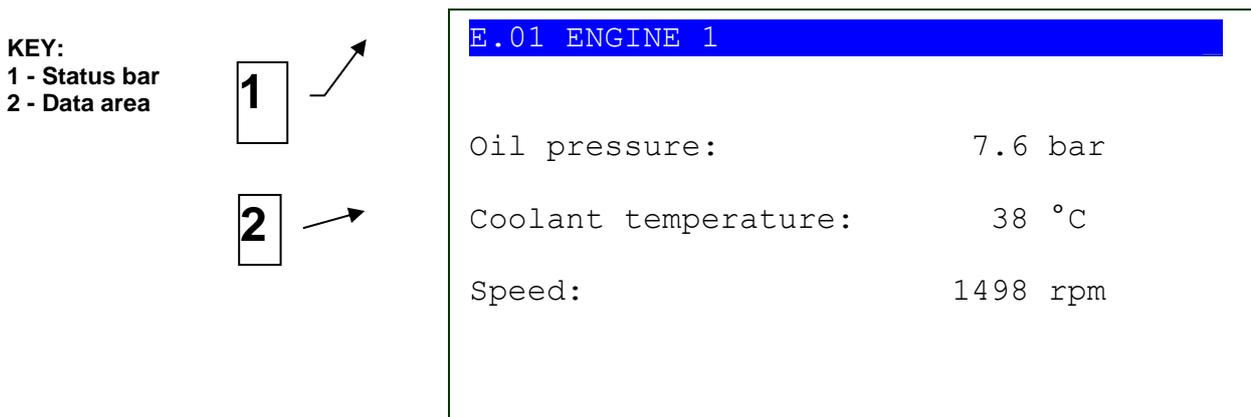

Fig. 4 - Display areas
6.4.5 Display area layout (ref. to fig. 4)